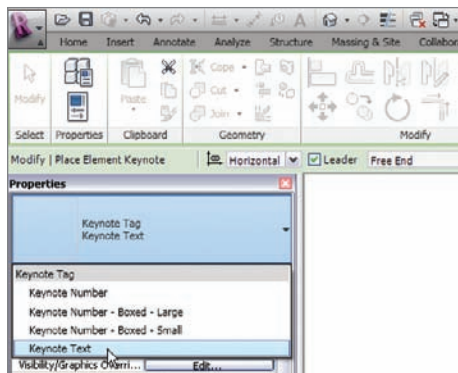

FIGURE 11.93 Choosing Keynote Tag: Keynote Text
4. In the Properties dialog, click the Change Element Type menu and click Keynote Tag: Keynote Text, as shown in Figure 11.93.